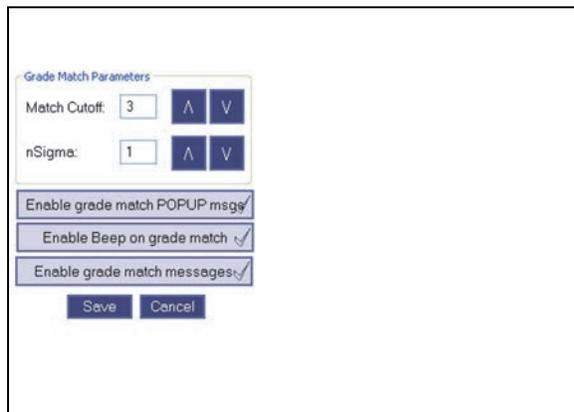

Figure 2-7 The Grade Match Parameters pane
1. In the **Grade Libraries** pane, click **Match Settings** (see Figure 2-7 on page 53).